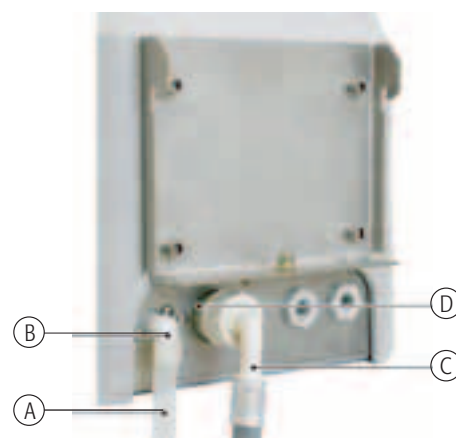

Fig. 2.b
**Note:** the humidisk must be installed in a horizontal position, with the air filter facing downwards, raised above the ground, as shown in figures 2.c, 2.d, 2.e. Any other position will compromise the correct operation of the appliance.